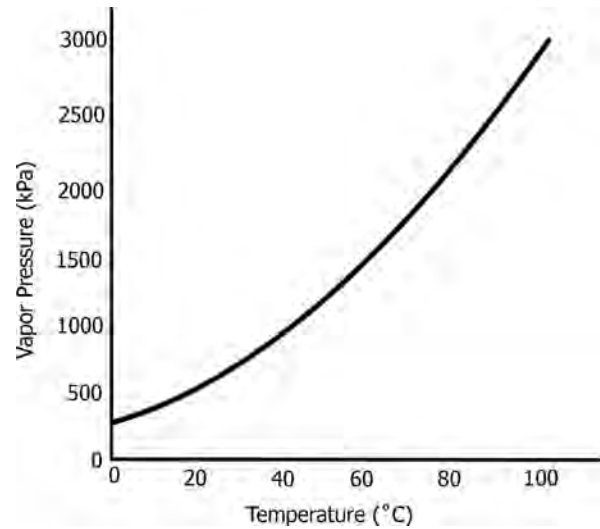

FIGURE 8.7 Vapor pressure curve for methyl chloride.
- The temperature–pressure characteristic of the thermometer is nonlinear as shown in the vapor pressure curve for methyl chloride in Figure 8.7.